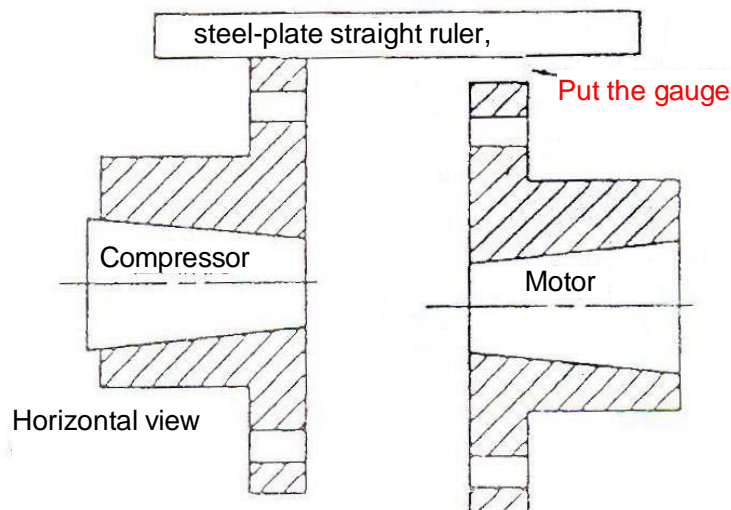

Fig. 4 Preliminary calibration
- Preliminary calibration: See Fig. 4. The preliminary calibration has two functions: one of them is the rough calibration to allow the micrometer gauge to achieve the measurement (because the measured value can't exceed the range of micrometer gauge; otherwise the micrometer gauge will be damaged); the other is to adjust the motor shaft to be slightly lower than the compressor shaft, so that the final calibration requires to add the shims only. As shown in the figure, place the straight ruler on the coupling flange edge of compressor shaft. The vertical distance between the straight ruler and the coupling flange edge of motor shaft is adjusted to be within the range of micrometer gauge. Adjust the shims on the support legs of motor or directly lower the motor to a certain position, to adjust the above distance to be within 1mm.